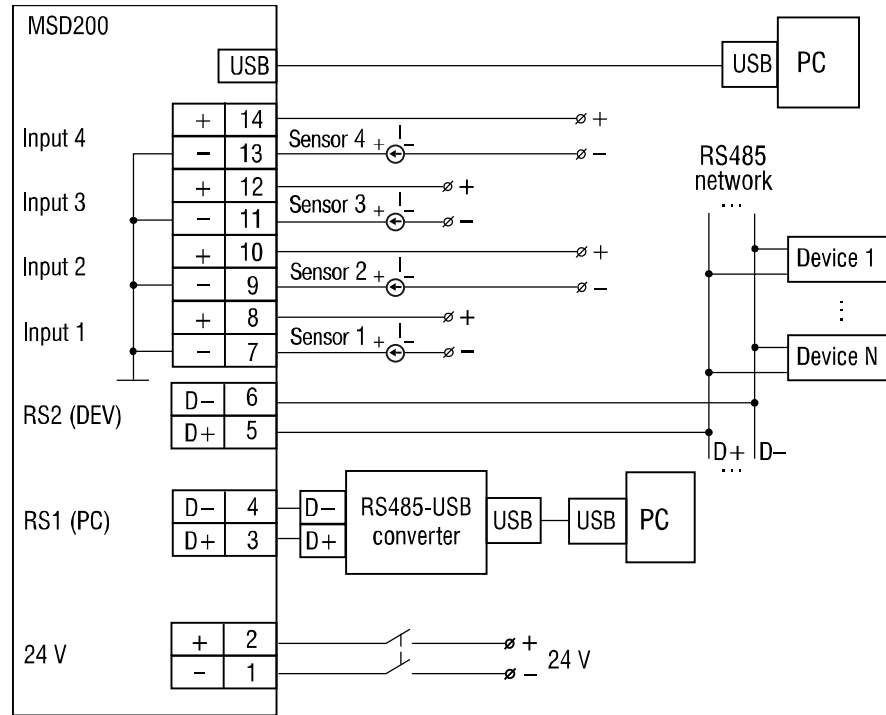

Fig. 5.2 Layout of external connections
- The electrical connections are shown in Fig. 5.2 and the terminal assignments in Table 5.1.